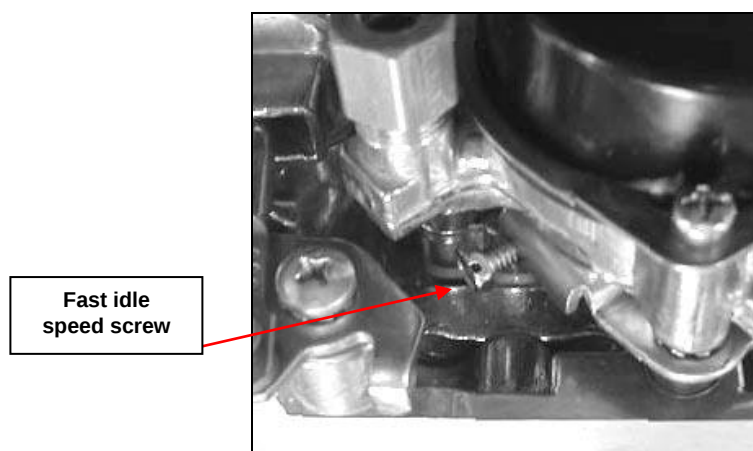

Figure 8
3. If the fast idle RPM is too low or too high for your preferences, **TURN THE ENGINE OFF**. Advance the throttle to wide-open, exposing the fast idle set screw below the choke housing (See **Figure 8**).